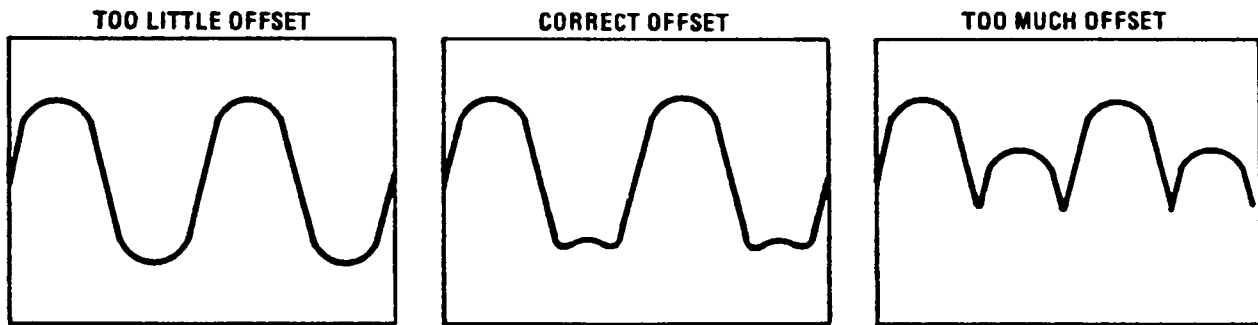

Figure 5-13. YTO Loop Offset Adjustment Waveforms
11. Set the YTO loop offset adjustment A3A9A4R53, OFST, so the sinusoidal waveform just begins to fold over. See figure 5-13.